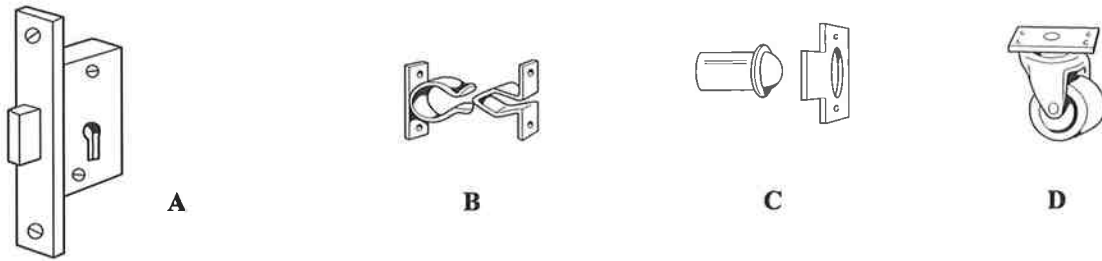

Figure 4. Types of ironmongery
6. Figure 4 shows the pictorial view of FOUR types of ironmongery used in cabinet work.
- (a) Name EACH of the ironmongery labelled A, B, C and D in Figure 4. **(4 marks)**